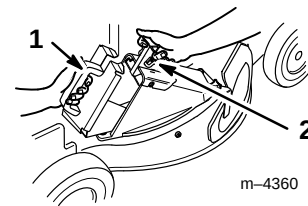

Figure 4
2. Open the discharge door by moving handle rearward (Fig. 4) and hold it open while inserting the plug.